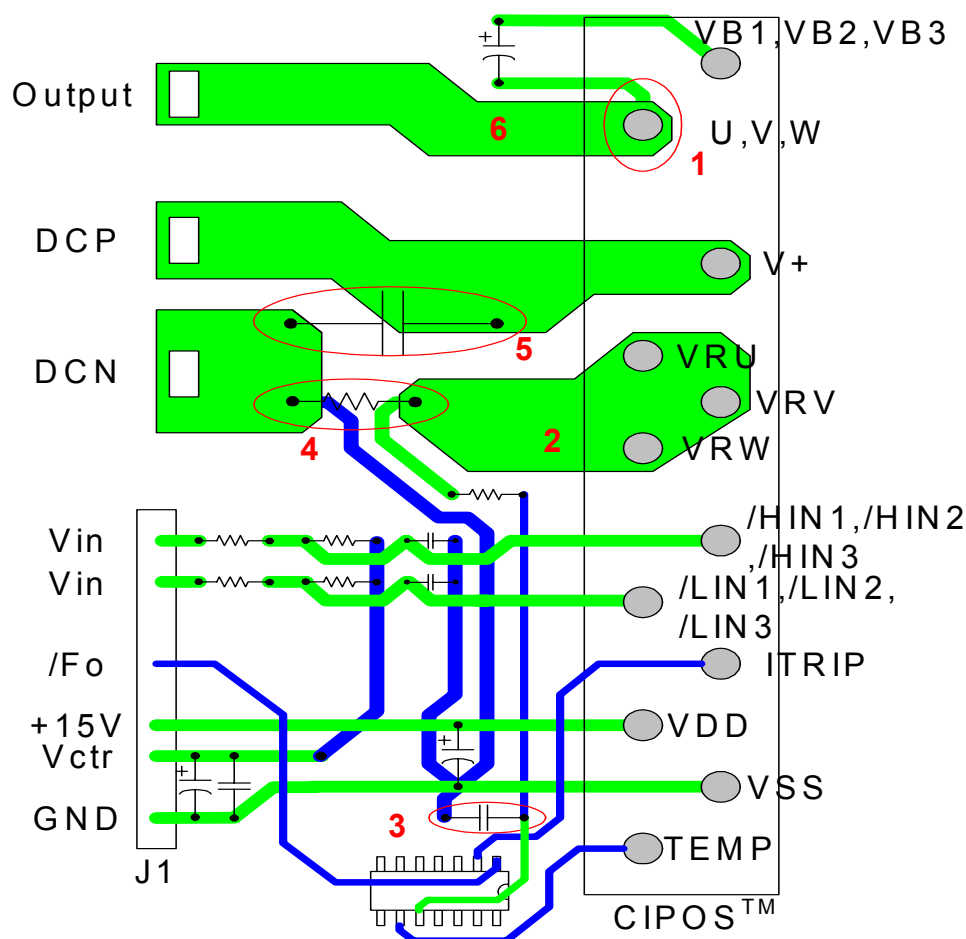

Figure 13 Example of PCB Layout
4. In order to detect the shunt voltage exactly, the sensing pattern of green and the ground pattern of blue should be wired from pin toward center of shunt resistor, and stretched out as shown in Figure 13.